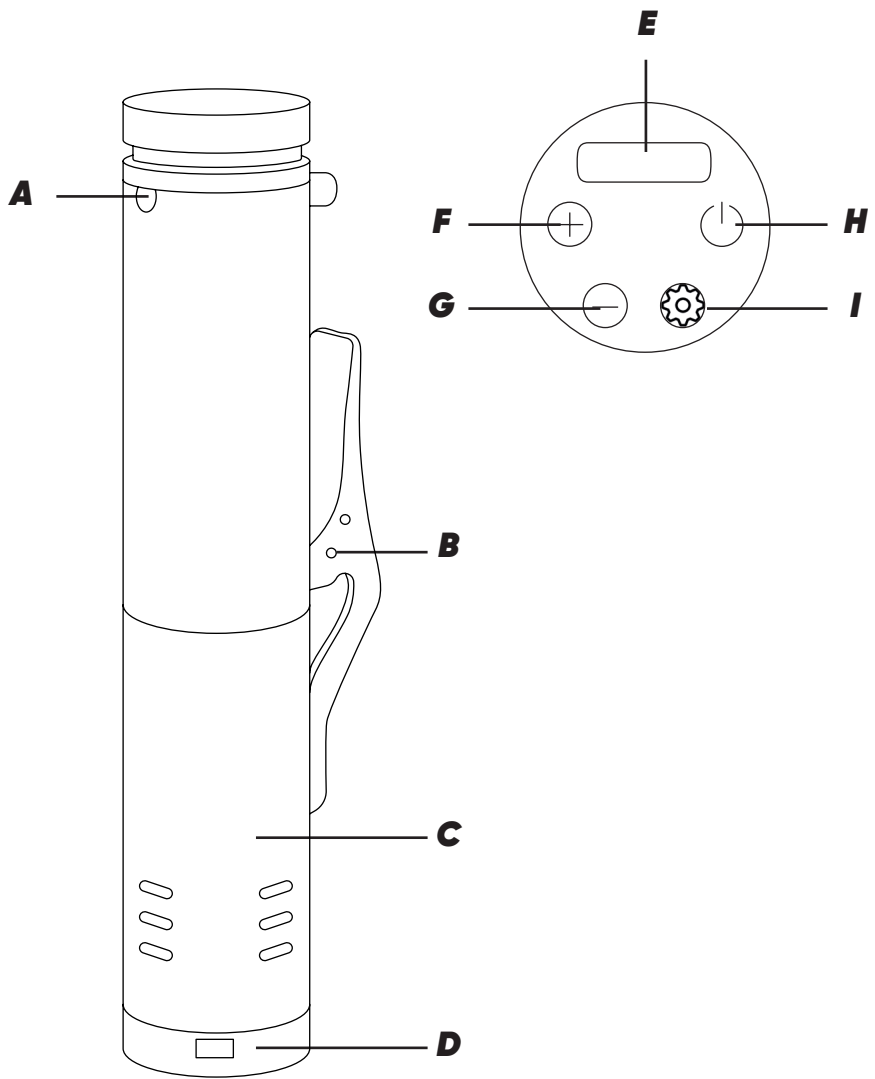

Fig. 1
- Hold the unit and align the unlocking symbol and the arrow, rotate the skirt in clockwise direction until you can see the arrow and locking symbol are in the same horizontal position (Fig. 1).